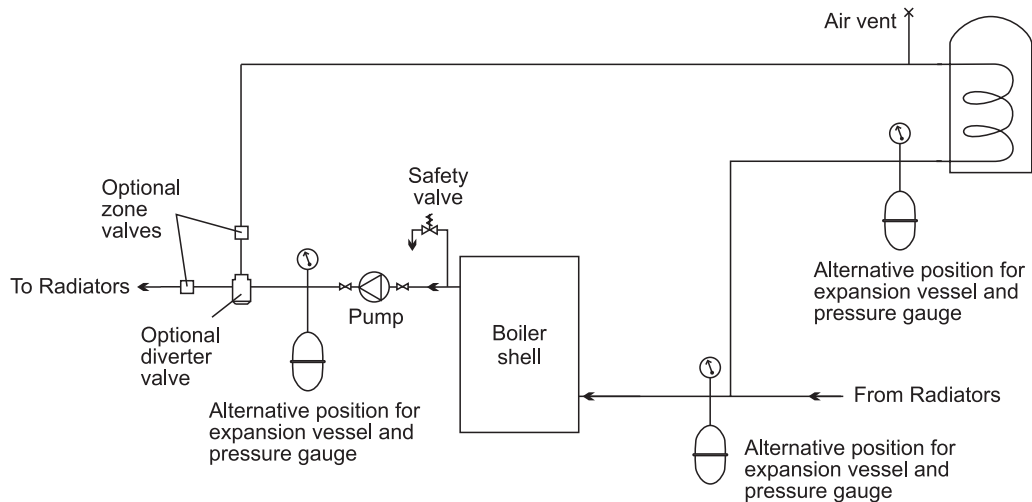

Fig. 10 Sealed system
See Fig. 10
- 3 The expansion vessel can be fitted in either the return or flow pipework in any of the recommended positions as shown in Fig. 10. To reduce the operating temperature of the expansion vessel diaphragm, position it below the pipe to which it is connected. The expansion vessel may be positioned away from the system, providing the connecting pipe is not less than 13 mm diameter.